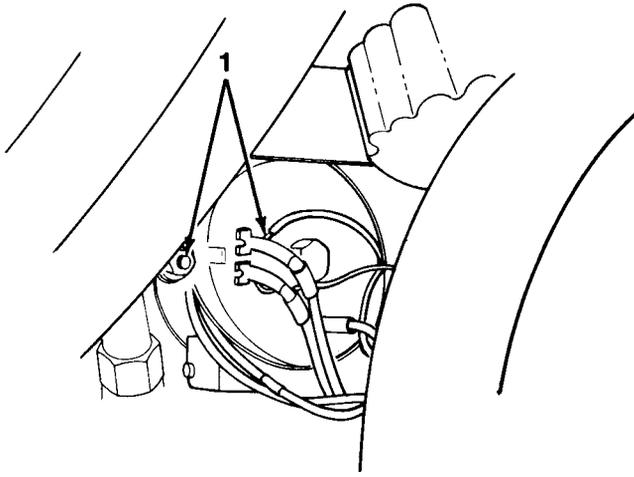

Figure 17-1
2. Disconnect electrical wires (1, Figure 17-1).